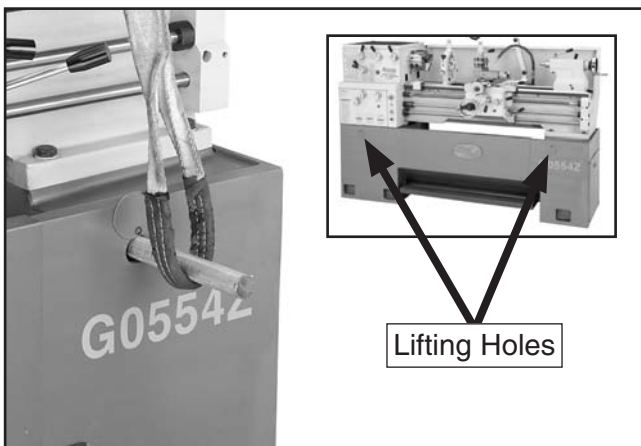

Figure 7. Lifting strap positioned on a lifting bar that is inserted through the lifting holes.
3. Move the lifting hole covers out of the way and slide the iron/steel round stock lifting bars completely through each end of the stand (see **Figure 7**).